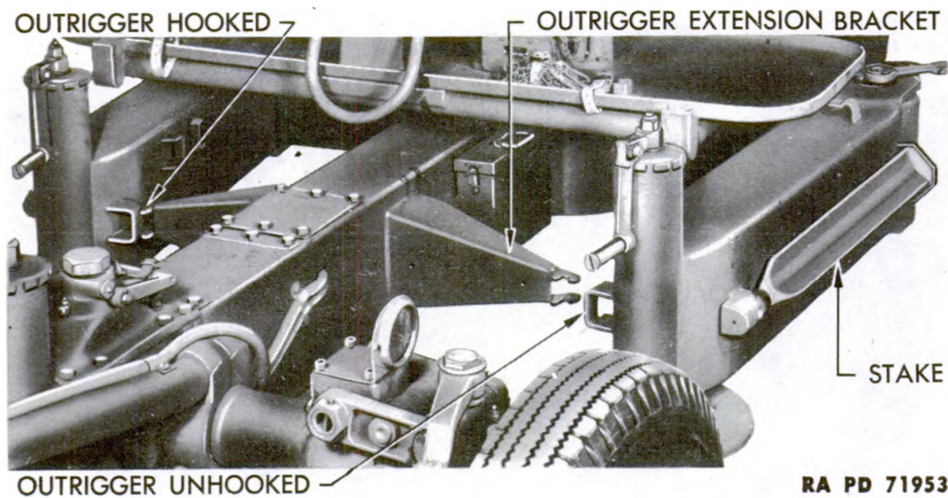
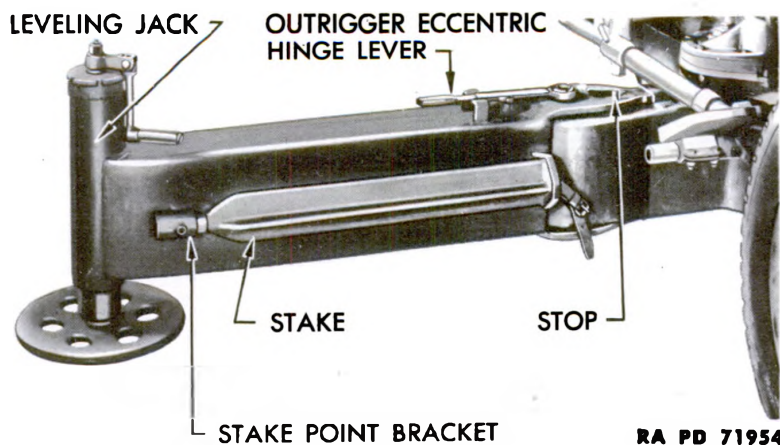

Figure 55 – Outrigger – Folded Position
Figure 56 – Outrigger – Extended Position
(1) The outriggers are built-up box girders, similar in construction to the short transverse arms of the chassis frame to which they are hinged. The outrigger eccentric hinges permit the outriggers to be extended when the mount is in firing position (fig. 56) or folded when the mount is in traveling position (fig. 55). These hinges give inward and outward movement to the outriggers which permits them to be locked in both positions.
(2) The upper and lower plates of each outrigger extend over the top and bottom of the end of its side girder. These plates terminate in wedge-shaped toes. There are brackets on the tops and bottoms of the side members into which the toes of the plates fit when the outriggers are in firing position. Brackets on the front sides near the ends of the outriggers engage hooks to lock the outriggers in traveling position.
(3) On the top of each outrigger is a jointed outrigger eccentric hinge lever which is keyed to the eccentric hinge spindle. Each lever is equipped with a holding bracket and a stop. With the outrigger in firing position, when the lever is swung toward the rear of the carriage until its stop is contacted, the eccentric sleeves on the hinge spindle cause the outrigger to move outward. The toe of the plate is withdrawn from the bracket on the side girder. The outrigger may then be swung forward to traveling position. Here the bracket on the outrigger is caught by hooks. When the outrigger eccentric hinge lever is returned to its holding bracket, the outrigger is locked in position.
(4) On carriages of early manufacture, the brackets on the sides of the outriggers are engaged by double outrigger hooks welded to both sides of the front chassis frame girder. The result is that the outriggers are drawn so closely to the girder that traverse is restricted when the weapon is in traveling position.
(5) On carriages of late manufacture, and on those which have been modified, chassis frame outrigger extension brackets with double outrigger hooks (fig. 55) are welded to both sides of the front chassis frame girder. When the outrigger brackets are engaged in the hooks on the extension brackets, the outriggers are locked at such angles as to permit continuous traverse of the weapon when in traveling position.
(6) On carriages of early manufacture, the outrigger hinges in traveling position were fitted with welded steel outrigger hinge covers. Carriages are currently being fitted with canvas outrigger hinge covers.
(1) Four triangular-shaped chassis stakes (figs. 55 and 56) are provided to anchor the carriage to the ground in firing position. In traveling position, one of these stakes is carried on the outer side
**40-MM AUTOMATIC GUN M1 (AA) AND 40-MM ANTI-AIRCRAFT
(2) In traveling position, the points of the stakes are fitted into cavities in the spring-loaded plungers of the stake point and the heads of the stakes are held in brackets (fig. 56).